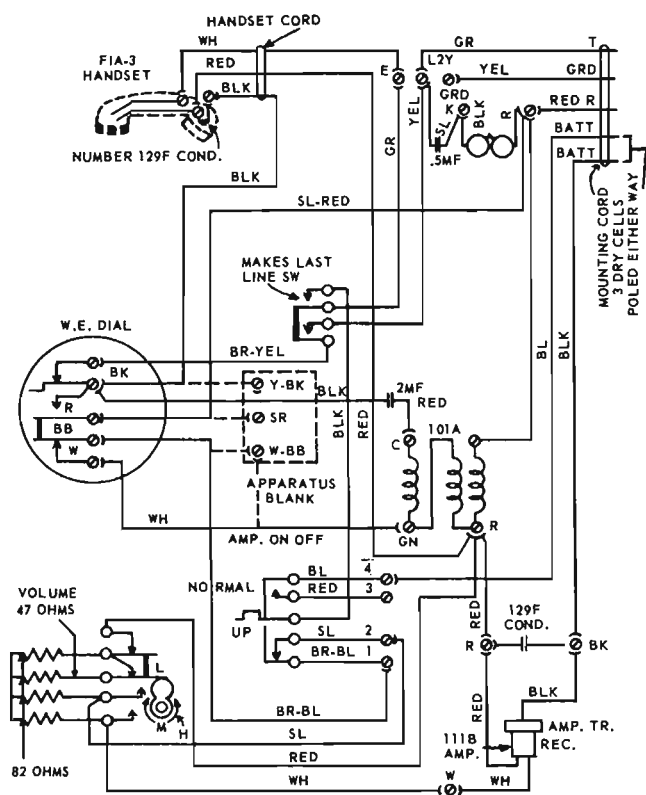
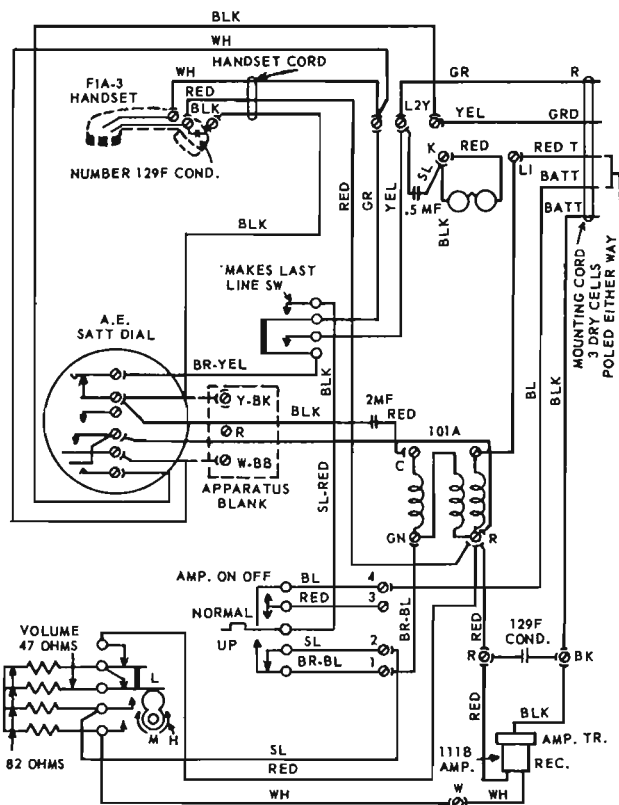

Figure 2. Type 332 Telephone with W. E. Co. Dial.
Figure 3. Type 332 Telephone with A.E. Co. SATT Dial and Ringer Modified for Party Line Service.
positive battery terminal and the other to a negative battery terminal) and extend them to the connecting block. Mount the battery box to the wall with a wood screw, making certain that the screw fits the rectangular portion of the keyhole in the battery box. Connect the battery leads to the two terminals that correspond to the black and blue leads of the line cord (refer to Figure 2). No polarity requirement need be observed for this connection.
2.05 It will be necessary to supply a separate ringer when installing a Type 332 telephone on party lines. To obtain the correct polarity, the wiring must be modified to correspond with that shown in Figure 3.
4.02 Figure 2 illustrates the connections that are required when the telephone is equipped with a W.E. Co. dial and an A.E. Co. SATT dial. Figure 3 illustrates the connections when an A.E. Co. SATT dial is used and the ringer modified for party line service.